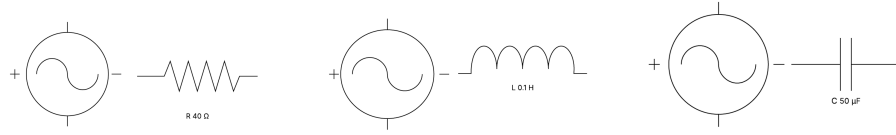

Figure 7: Minimal schematics used in Sections 2.1–2.3. Drawn in Inkscape; polarity $+v(t)-$ and $i(t)$ arrow shown.
- (1) Phase: $0^\circ, -90^\circ, +90^\circ$ (R, L, C).
- (2) Amplitudes: $V_m=80$ V; $I_{Rm}=2.00$ A, $I_{Lm}=1.274$ A, $I_{Cm}=2.512$ A.
- (3) Power: $p_R(t) \geq 0$, $\bar{P}_R=80$ W; $\bar{P}_L=\bar{P}_C=0$.
- (4) Energy: w_R rises by ≈ 0.80 J/cycle; $w_{L,\max} \approx 0.081$ J; $w_{C,\max} \approx 0.160$ J.
- (5) All axes with units, legends visible.
- **Inkscape diagrams:** Fig. 7.